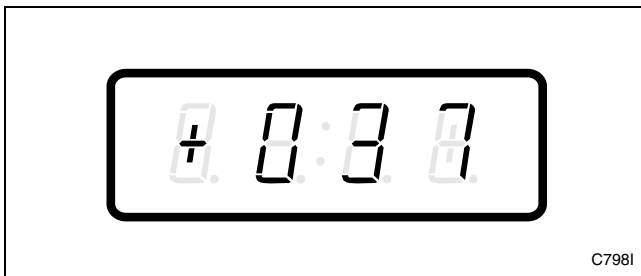

Figure 142
3. Press the DELICATES (+) or the COLD (-) keypad to scroll through the programmable options until “+037” appears in the VFD. Refer to *Figure 142*.